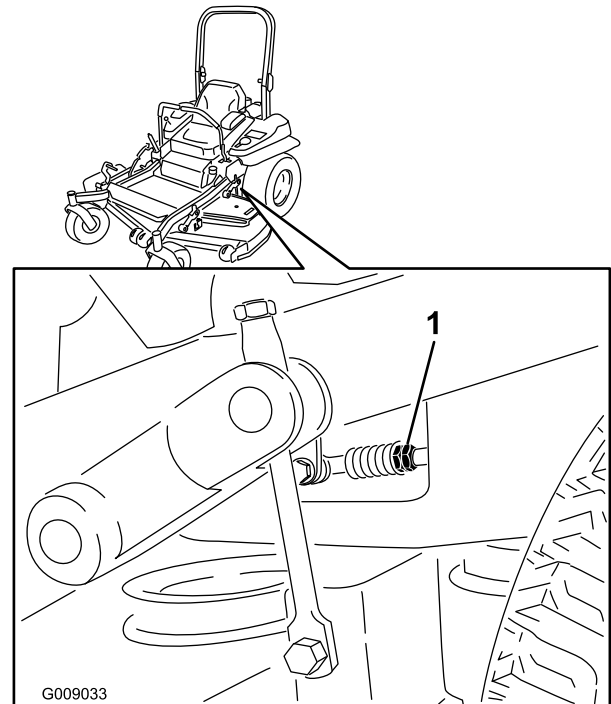

Figure 86
- Bring the motion control levers into the neutral position. Adjust pump control rod lengths by rotating the double nuts on the rod in the appropriate direction until the wheels slightly creep in reverse (Figure 86). Move the motion control levers to the reverse position and while applying slight pressure to the lever allow the reverse indicator springs to bring the levers back to neutral. The wheels must stop turning or slightly creep in reverse.